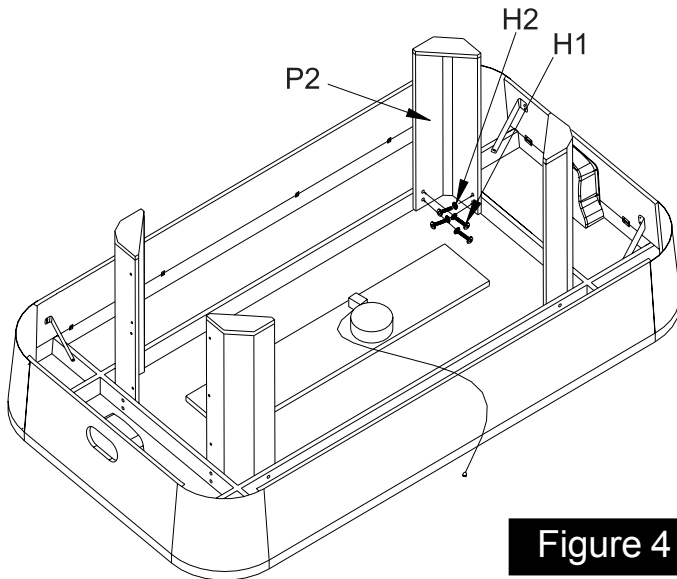

Figure 4
6. Attach the legs **P2** and **P2A** using bolts **H1** and washers **H2** as shown in **Figure 4**.